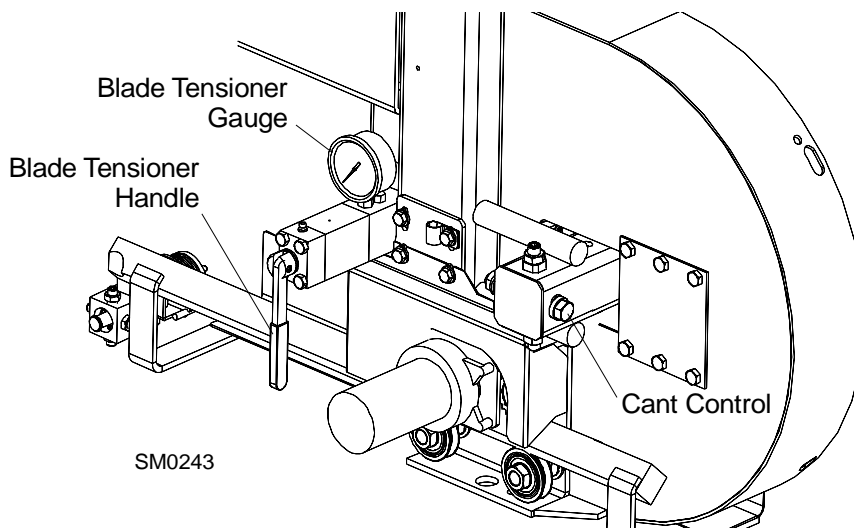

FIG. 2-3
See Figure 2-3. Tension the blade by turning the hydraulic tensioning handle clockwise until the tension gauge indicates the recommended tension.
4. To adjust where the blade travels on the blade wheels, use the cant control shown in **Figure 2-3**.